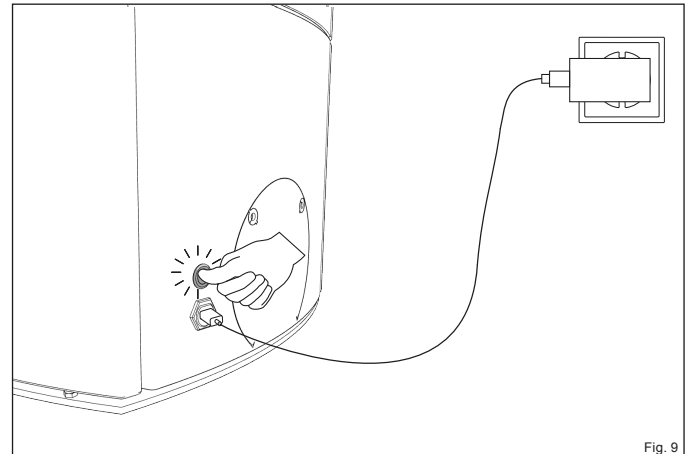

Fig. 9
- ▶ Press the On/Off switch (Fig. 9).